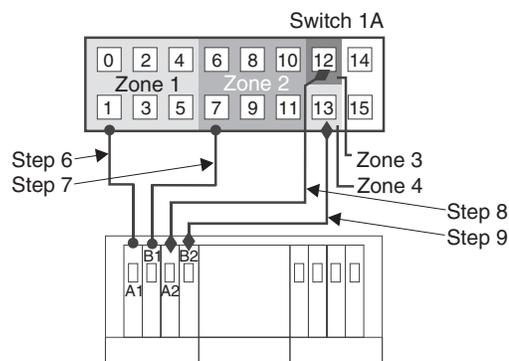

Figure 25. Storage subsystem connections to Fibre Channel switches
6. Connect controller port A1 of the storage subsystem to an available port in Zone 1 of Switch 1 as shown in Figure 25.
7. Connect controller port B1 of the storage subsystem to an available port in Zone 2 of Switch 1 as shown in Figure 25.
8. Connect controller port A2 of the storage subsystem to an available port in Zone 3 of Switch 1 as shown in Figure 25.
9. Connect controller port B2 of the storage subsystem to an available port in Zone 4 of Switch 1 as shown in Figure 25.